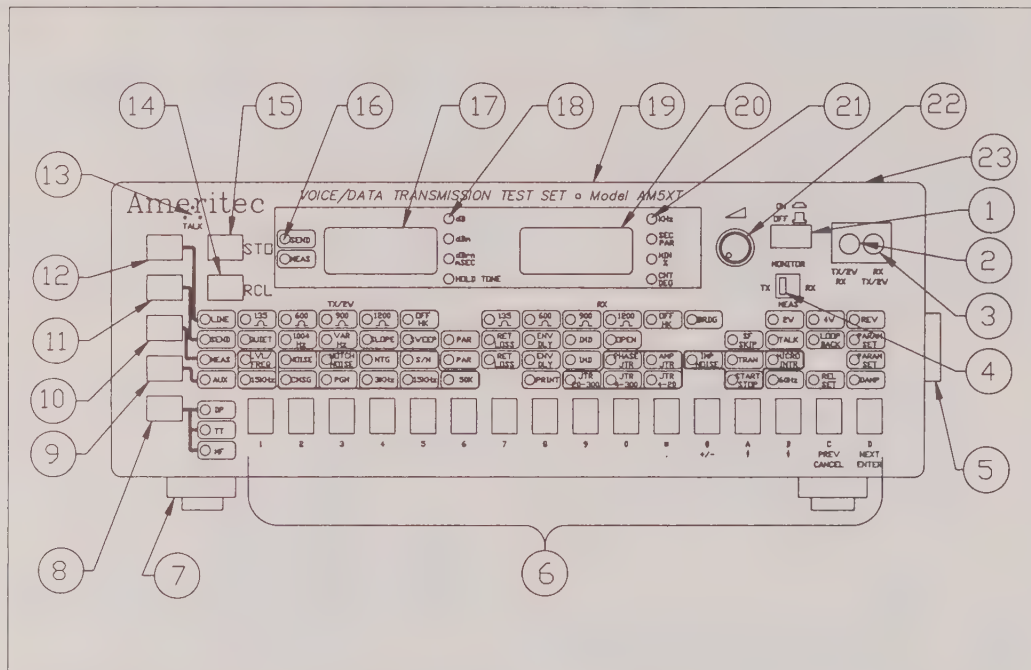

Figure 3-1. Front Panel Components
The Front Panel of the AM5XT is illustrated in Fig. 3-1. See ¶ 3.04 for descriptions of the components called out. See FOLDOUT at the end of this manual for detailed views of the AM5XT and AM5eXT Front Panels.
- A. For example, press [SEND] key (item 11 in Fig. 3-1); *SEND* LED will light. Then press [7]. Return Loss send function will be enabled (*RET LOSS* LED will light). Then, repeatedly press [7] to step through the three (3) Return Loss send DATA DISPLAYS.
- C. When *Dialing Mode* (DP, TT, MF) is enabled (using item 8 in Fig. 3-1), pressing a key along the bottom edge will cause the respective digit to be dialed (pulsed).
The numbering of the descriptions below corresponds to the numbering of the components in Fig. 3-1.